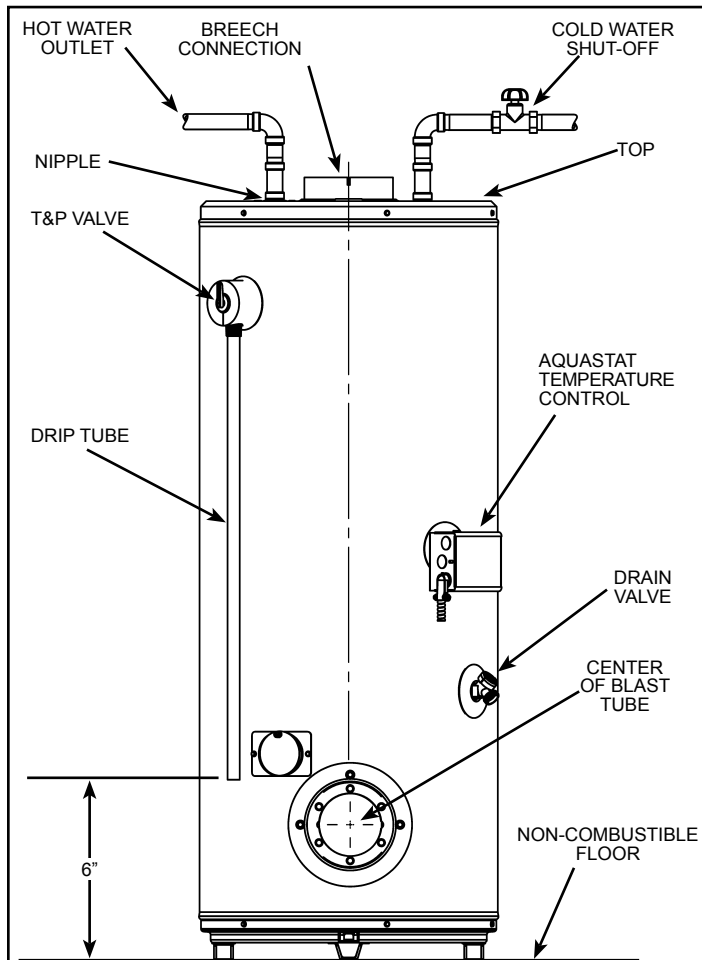
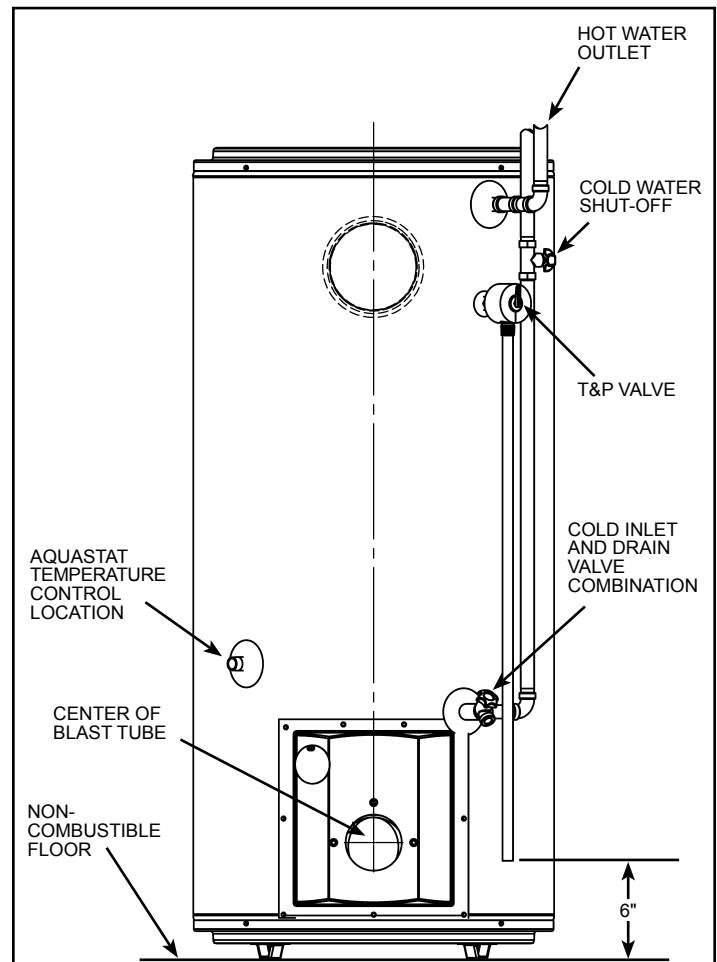

Figure 9. Plumbing Connections (Center Flue)
Figure 10. Plumbing Connections (Center/Rear Flue)
Piping, fittings, and valves should be installed according to the applicable installation drawing (Figure 9 and Figure 10). A pressure-reducing valve and/or an expansion tank may be required for installations where the water pressure is high. The pressure-reducing valve should be located on the supply to the entire house in order to maintain equal hot and cold water pressure.
1. Install the water piping and fittings as shown in Figure 9 or Figure 10. Connect the cold water supply to the unmarked fitting (3/4" NPT). Connect the hot water supply to the fitting (3/4" NPT) marked "HOT" (or "H").